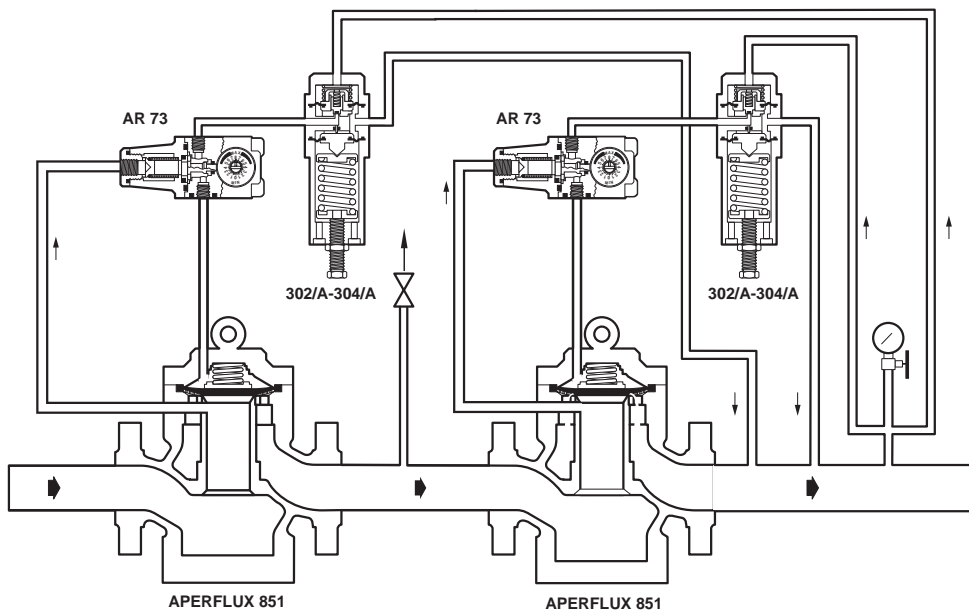

Fig. 19
- Aperflux 851 regulator, the same in all ways as the main regulator (fig. 19).